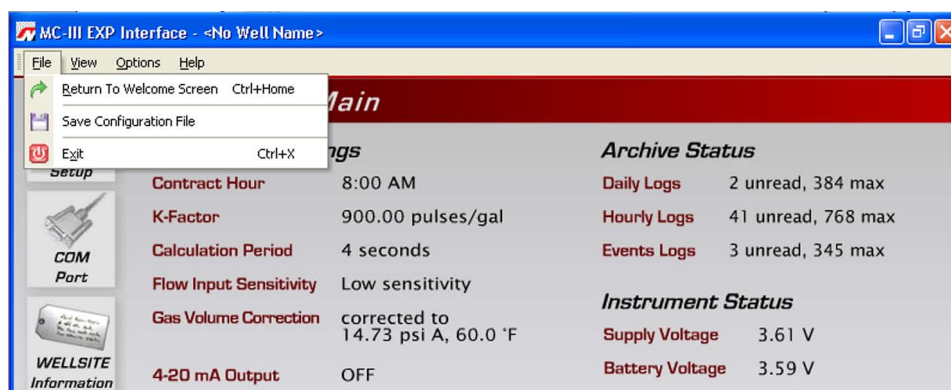

Figure 4.34—File dropdown menu allows user to save a configuration file
1. Select File>Save Configuration File (Figure 4.34). A "Save MC3 Configuration File" screen will appear, prompting the user to save the file to the computer hard drive. The default directory is C:\NuFlo log data\MC-III\<WELL NAME>, however the user can specify a new location, if desired.